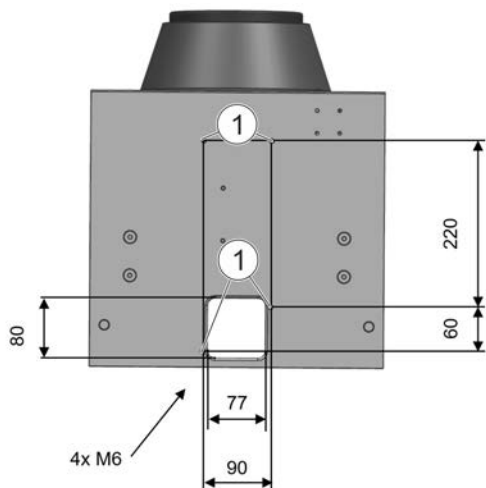

Fig. 11: Assemble bracket
1. Screw support bracket onto the console. Refer to the assembly bores of the console Fig. 11.